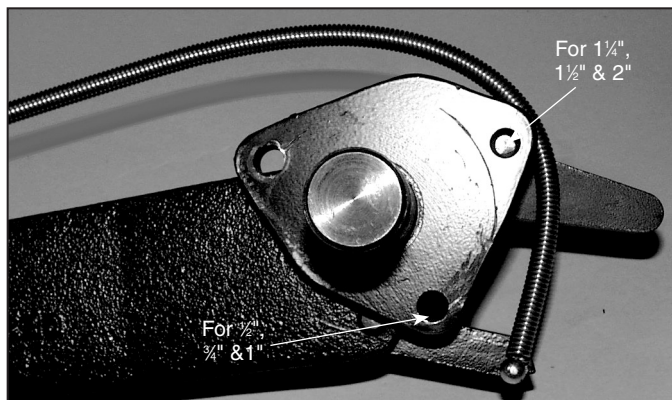

Fig. 2
3. Two of the three holes in the back of the ratchet handle are for the locating pin on the frame. When bending $\frac{1}{2}$ ", $\frac{3}{4}$ " or 1" conduit, the lower left hole is used. When bending $1\frac{1}{4}$ ", 1" or 2" conduit, the top center hole is used, figure 2. The third hole is not used.